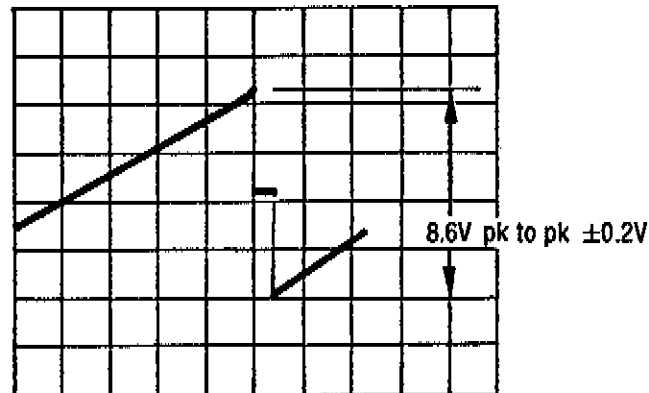

Figure 5-27. YTF DAC Adjustment
6. Adjust A5A5R60, Peak for a voltage reading of 8.6V peak to peak $\pm 0.2V$. See figure 5-27.